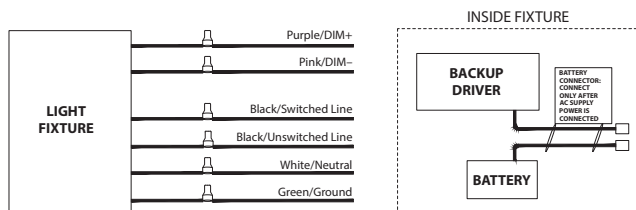

Fig: 13
Voltage could be present in **BATTERY**. To prevent high voltage from being present on output leads, Inverter Connector must be open. Do not join **BATTERY** connector until installation is complete and AC power is supplied to the emergency driver (Fig. 13).
7. After installation is complete, supply AC power to the fixture and connect the **BATTERY** (Fig. 13).